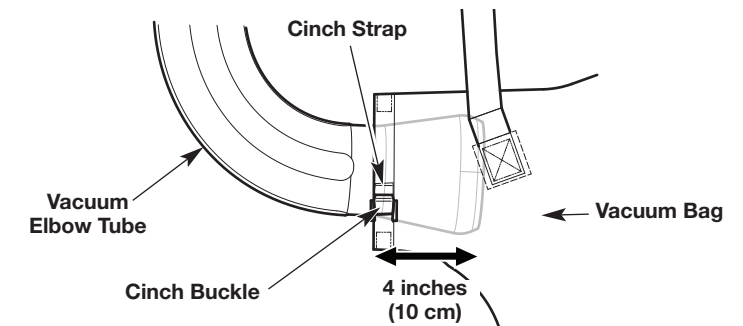

Fig. 10
5. Insert the flared end of the vacuum elbow tube approximately 4 inches (10 cm) into the vacuum bag (Fig. 10).
6. Pull the cinch strap to tighten the vacuum bag around the vacuum elbow tube (Fig. 10).